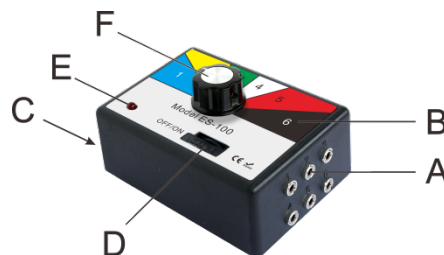

Figure 2
- 3) Insert the clamp cable jack into the slot in the control box (Figure 2. A). Note that the socket is numbered, the selector scale (Figure 2.B) has the corresponding number, and the color code matches the color code on the clamp cable, as follows:
- 4) Insert the headphone cable jack into the socket in the control box (Figure 2.C).
- 5) With headphones on, turn on the control box (Figure 2.D) - the red LED (Figure 2.E) lights up and slowly increases the volume to a comfortable level.
- 6) You can now listen to each microphone clip in turn using the selector switch (Figure 2.F).